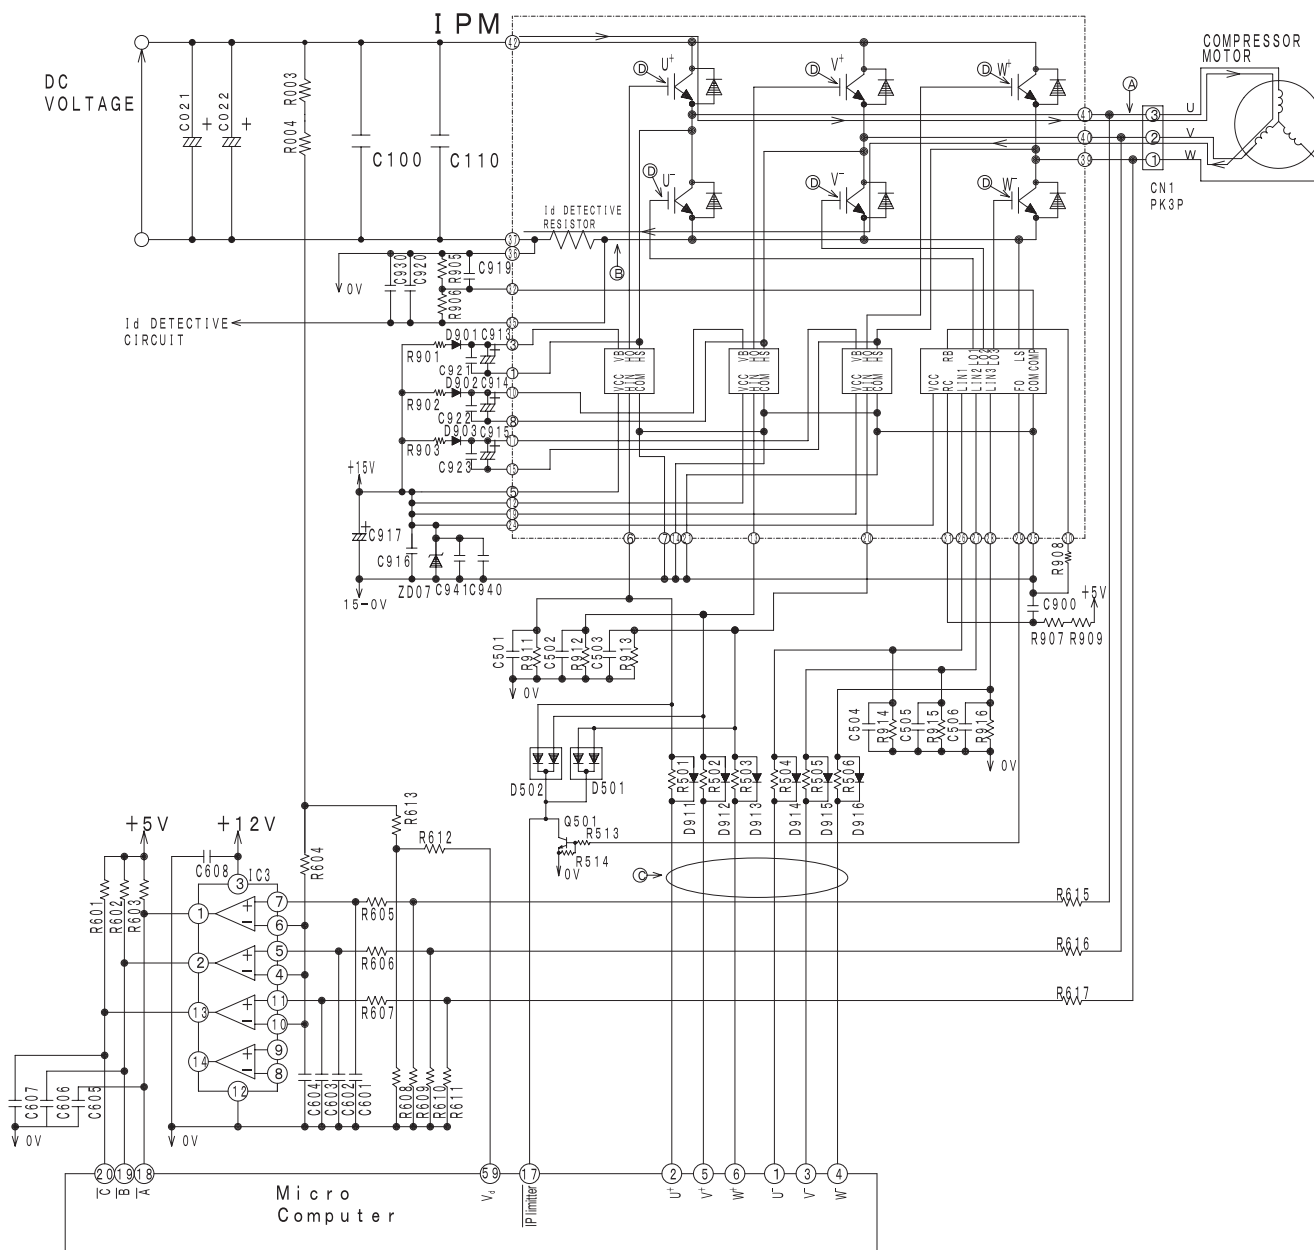
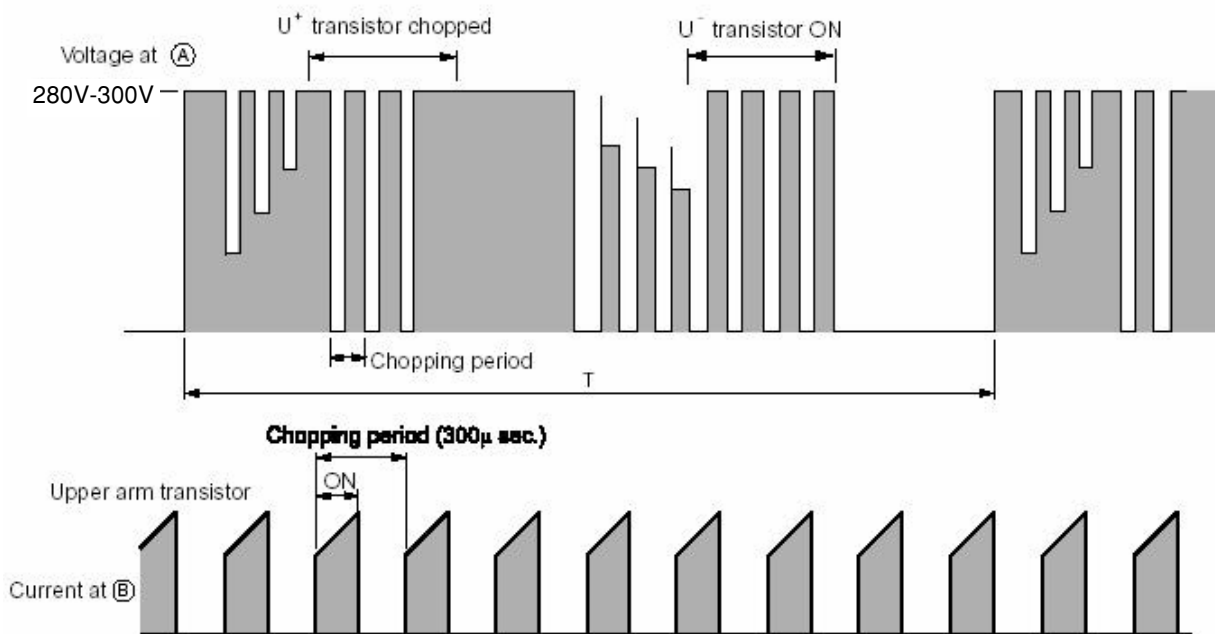

Fig. 4-1 Intelligent power module circuit (U⁺ is ON, V is ON)
Fig. 4-3 Voltage waveform at each point
- Fig.4-1 shows the intelligent power module and its peripheral circuit. The three transistors on the positive e side are called the upper arm, and the three transistors on the negative d side, the lower arm.
At point ⑤: U+ is ON, V is ON (circuit in Fig. 4-1)
Fig. 4-3 shows voltage waveform at each point shown in Figs. 4-1 and 4-4. First half of upper arm is chopper, second half is ON, and first half of lower arm is chopper, second half is ON.
- (1) When U+ transistor is ON: U+ transistor → U coil → V coil → V- transistor → DC current detection resistor → Point ⑤ (Fig. 4-1)
Since current flows at point (B) only when U⁺ transistor is ON, the current waveform at point (B) becomes intermittent waveform as shown in Fig. 4-3. Since current at point (B) is approximately proportional to the input current of the air conditioner, input current is controlled by using DC current (I_d) detection resistor.